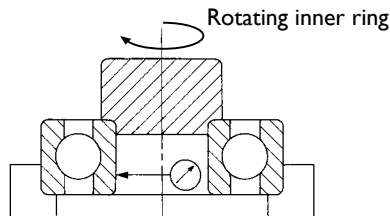

Figure 2-7
- Radial Runout of Inner Ring (K_{ia}) Figure 2-7